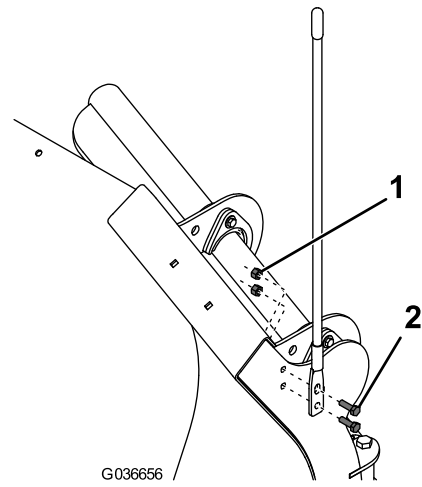

Figure 15
- Attach the blade guides to the plow blade using 4 bolts (5/16 x 1 inch) and 4 self-locking nuts (Figure 15).